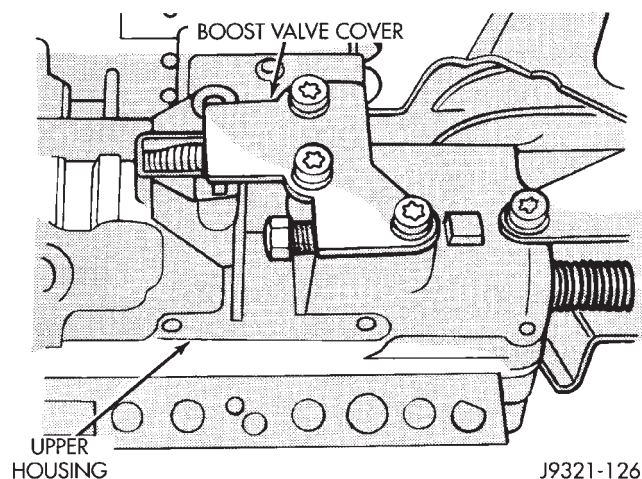

Fig. 90 Boost Valve Cover Location—46RH
- (1) Remove boost valve cover (Fig. 90).